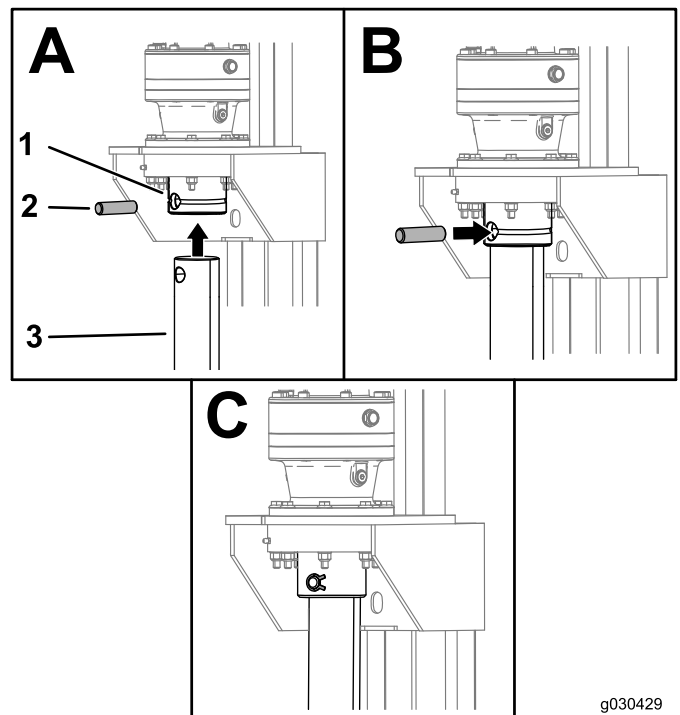

Figure 5
Install the new stakes by aligning the hole in the stake with the hole in the motor and secure it with the pins and e-clips previously removed (Figure 5).
5. Secure the stake to the motor as shown in Figure 5.